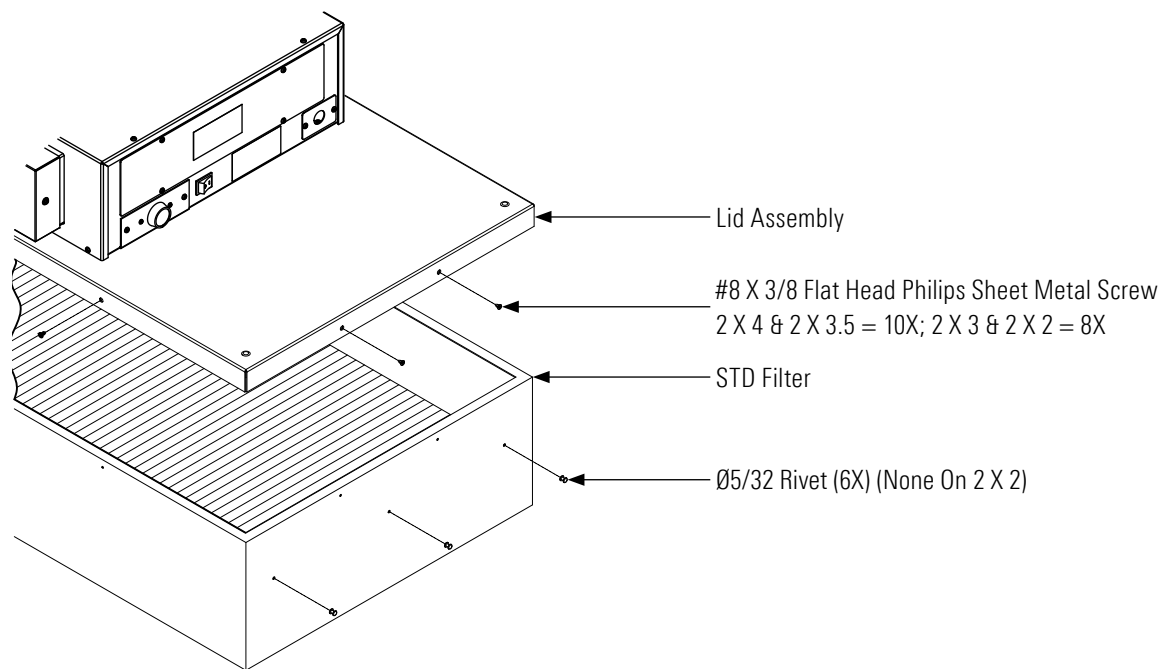

FIGURE 9: STANDARD FILTER REPLACEMENT
Step 3. Lift the lid assembly off the filter. (See Figure 9.) Discard the used filter as per requirements of the applicable regulations.